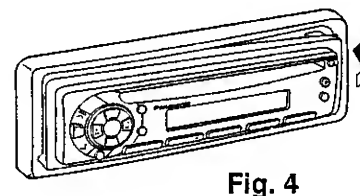

Fig. 4
- ② Press the right end of the removable face plate until "click" is heard. (⇒ Fig. 4)